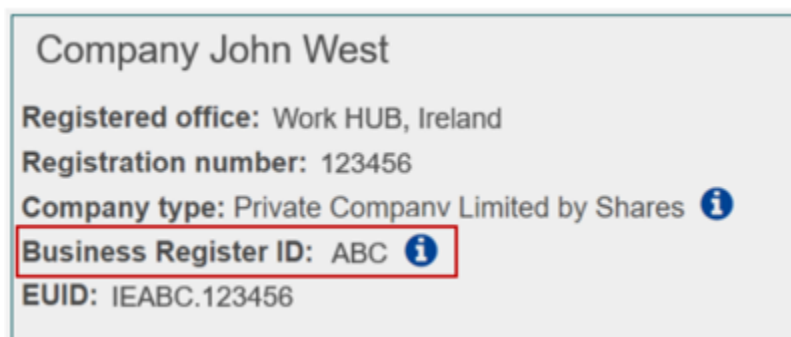

Figure 14 - Business Register ID from BRIS
Step 3: once you have found your organisation in the BRIS system, the Business Registration Number is the forth attribute, as shown in Figure 14.